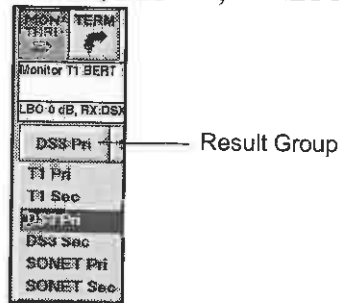

Figure 10 — Results Group selection on main menu screen
- 2 **Result Group display** — The first button in this dual-feature display depicts a pull-down list of the current test results, and lets you change the *source* between the Primary and Secondary receivers, such as T1 Pri (T1 Primary), T1 Sec (T1 Secondary), DS3 Pri, DS3 Sec, SONET Pri, and SONET Sec (see Figure 10).